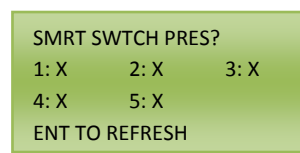

Figure 5.3
4. To test that the Time-Keeper® “sees” all the Smart Switches, press FWD until the LCD screen says, “SMT SWTCH PRES?” See Figure 5.3 for a visual example.